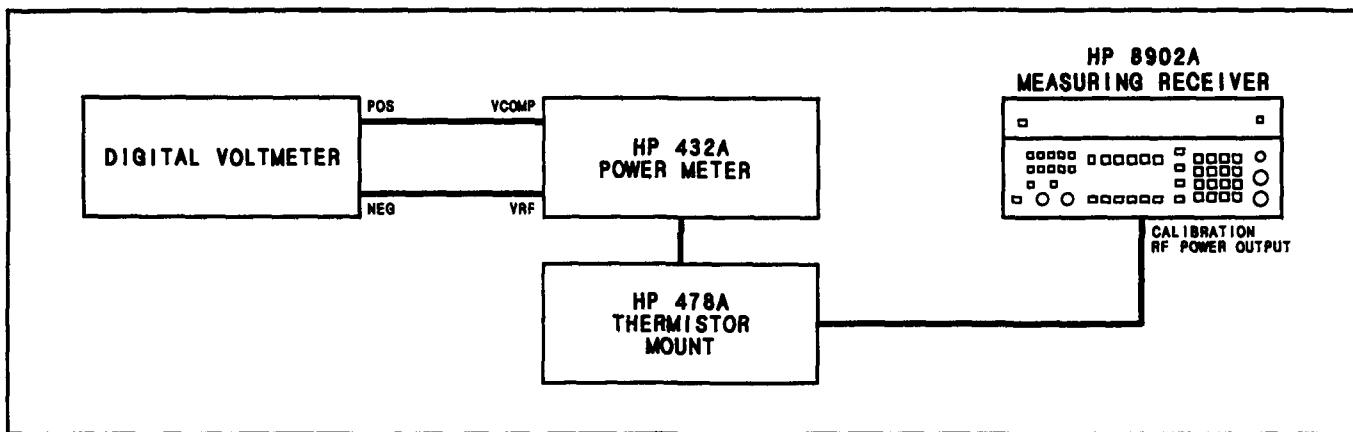

Figure 4-6. Power Reference Performance Test Setup
- Mount Resistance (R): _____ Ω
- Connect the equipment as shown in Figure 4-6. The input of the digital voltmeter should be floating. The positive input of the voltmeter should be connected to the rear-panel VCOMP connector of the HP 432A Power Meter, the negative input to the VRF connector. Switch the equipment on and let it warm up for at least 30 minutes.